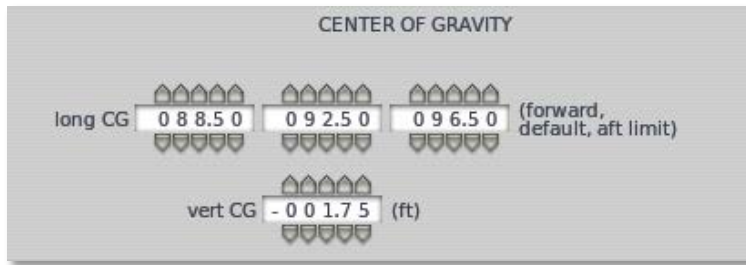

Figure 6.5: The center of gravity settings, located in the Weight & Balance dialog box
The aircraft's center of gravity (CG) is set using only the longitudinal and vertical parameters of the standard location controls; that is, it has only a distance behind and above the reference point. In X-Plane, the user may move the center of gravity forward or aft. In light of this, three longitudinal positions are defined for the center of gravity. The first, seen on the far left in **Figure 6.5**, is the forward limit (the farthest forward the CG may move). The middle value is the center of gravity's default longitudinal position, and the value on the far right is the aft limit (the farthest back that the CG may move).